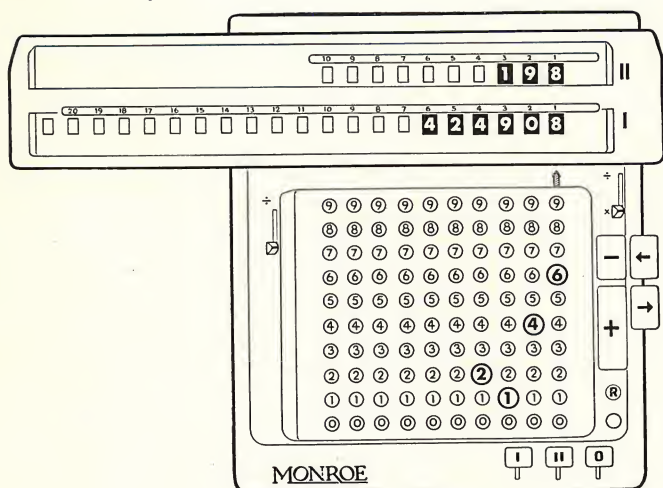

Figure 15
Step 2—Then shift the carriage to the left two places so that it is in the "1" position. With the minus bar subtract twice. The answer, 424908, appears in the lower dials. In the upper dials are the true figures of the multiplier, 198. See Figure 15.